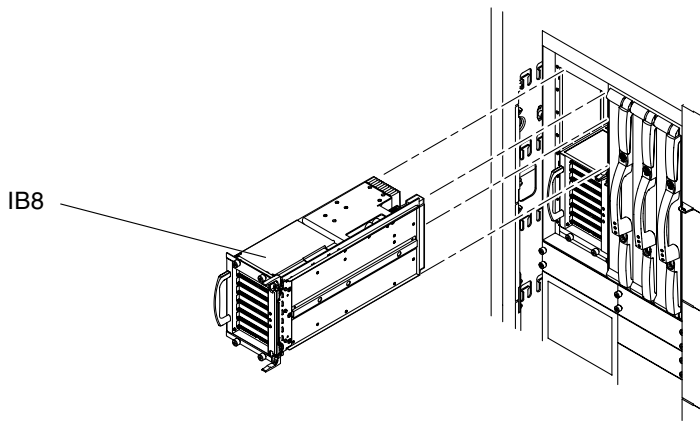

FIGURE 12-39 Removing IB8 I/O Assembly—Sun Fire 4810 System
4. Facing the rear of the system, remove IB8 I/O assembly from the system (FIGURE 12-39).
3. **Install IB8 I/O assembly into the system (FIGURE 12-39).**